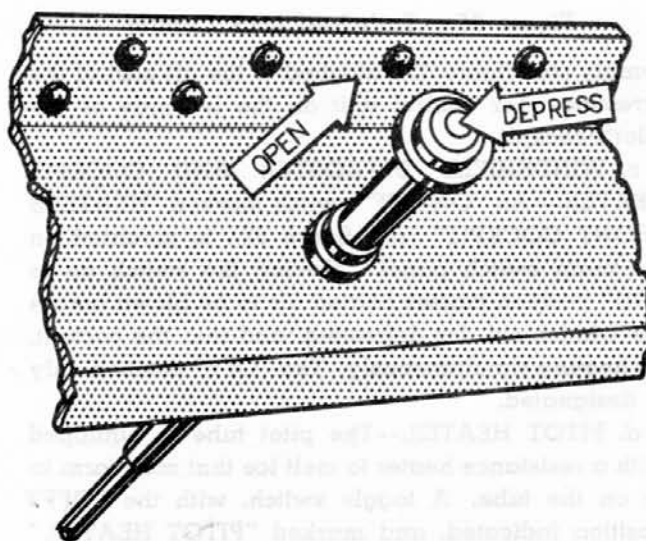

Figure 38 — Pilot's Ventilation Control
(1) **PILOT'S COCKPIT VENTILATION.**—The control for ventilation of the pilot's cockpit (see figure 38) is located on the left side of the cockpit, aft of the ignition switch.